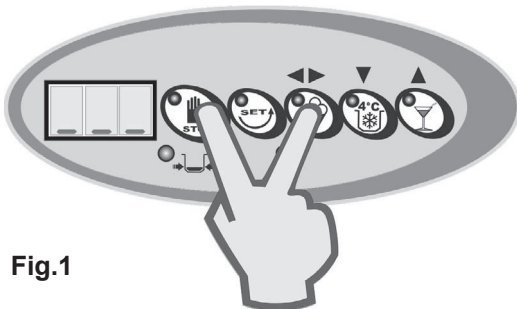

Fig.1
3. With the machine at STOP, press the "**STOP**" and "**PRODUCTION**" keys simultaneously and release them only after the password identification screen appears (fig.1).